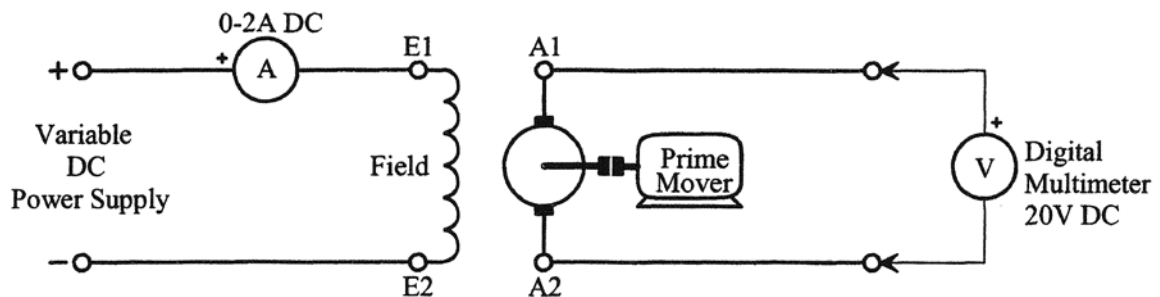

Figure 1
2. Connect the circuit as shown in Figure 1.